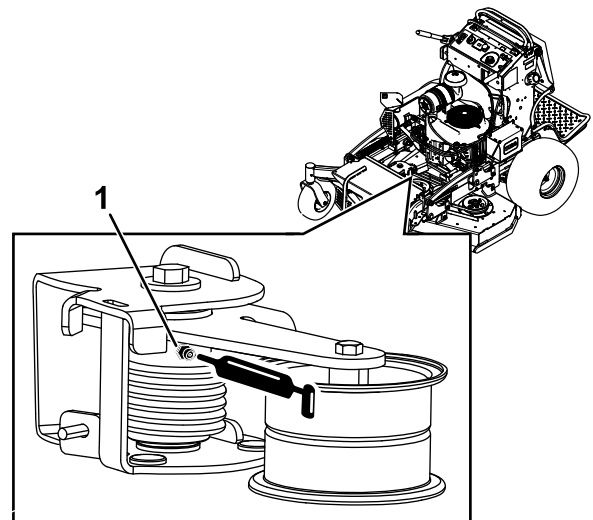

Figure 46
3. Grease the torsion idler on the mower deck using high-temperature grease at the grease fitting shown in Figure 46.